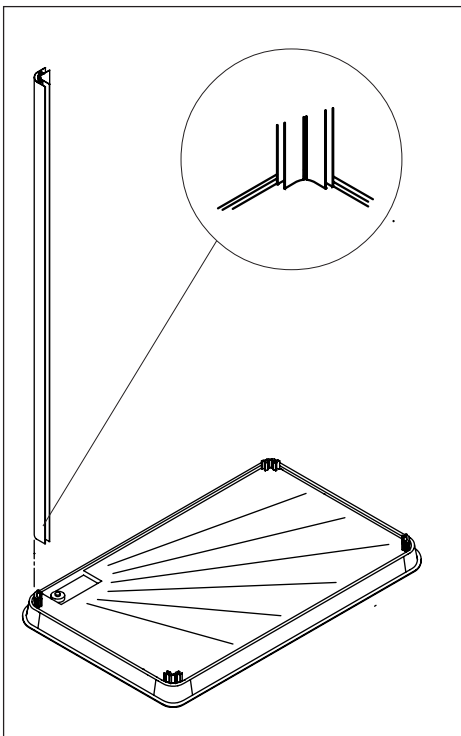

Fig 4.1
1. Fig 4.0-Ensure that the shower tray is placed on the floor and is level along its length and width. Also ensure that the 4x30mm blocks are inserted in the bottom of all 4 corner sections before assembly, as fig 4.1.
2. Fig 4.1-Locate the corner post onto the factory fitted foot section (the only corner post with a large hole in the bottom). Secure with the grub screw supplied (see inset). This is always on the pump post outlet.